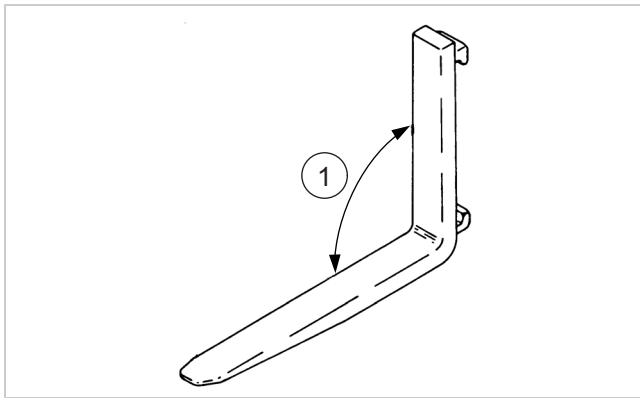

Fig. 8 (16861-02)
See Figure 8. The angle (1) between the top of the fork blade to the back surface of the shank must be less than 93°. Replace the fork if the angle is greater than 93°. Contact a Crown Equipment Corporation representative for additional information on repairing the forks.